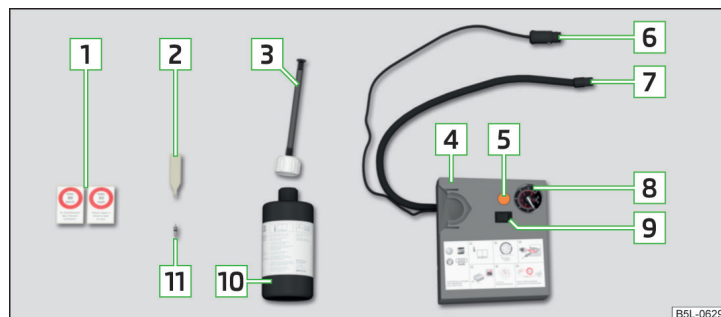

Fig. 187 Description of the breakdown kit
- Insert the valve remover **2** » Fig. 187 on page 155 on the valve insert, so that the valve insert fits into the slot of the valve remover.
- Forcefully shake bottle **10** » Fig. 187 on page 155 several times.
- Screw the tyre inflation hose **7** » Fig. 187 on page 155 firmly onto the tyre valve.
- Stick the corresponding sticker [1] » Fig. 187 on page 155 on the dashboard in the driver's field of view.